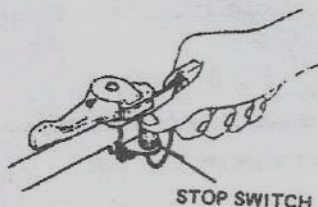

Fig. 14
3. How to carry (Fig. 14)
- 1) Decrease the engine speed, and depress the stop button until engine has stopped. (Fig. 14)